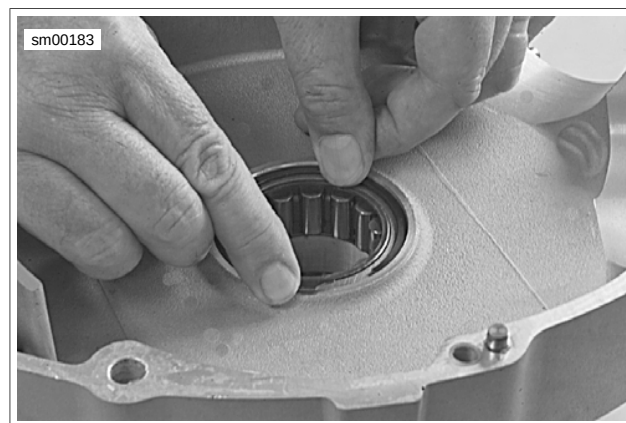

Figure 3-124. Removing Sprocket Shaft Bearing Retaining Ring
7. See Figure 3-124. Remove sprocket shaft bearing retaining ring from the inside of the left crankcase half.